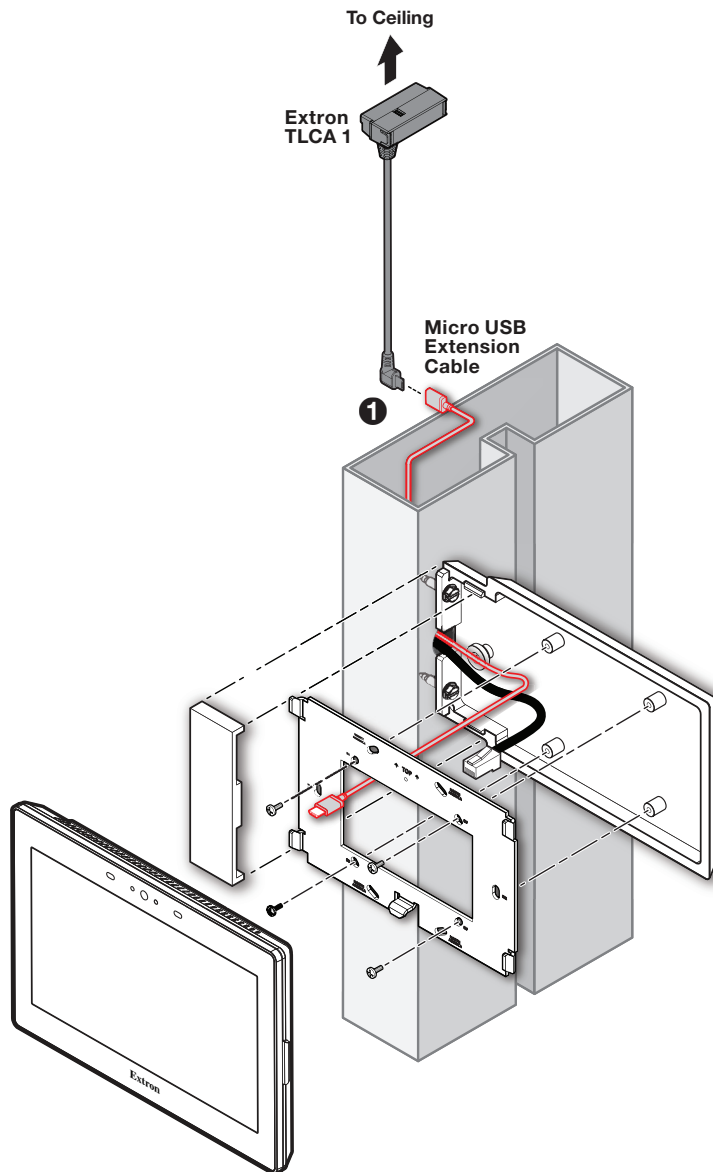

Figure 14. Mounting TLCA 1 to wall, glass wall or mullion mount (with micro USB extension cable)
Using a micro USB extension cable (not included) (see figure 14, ①), extend the TLCA 1 to the nearest available mounting location (e.g. to the ceiling).